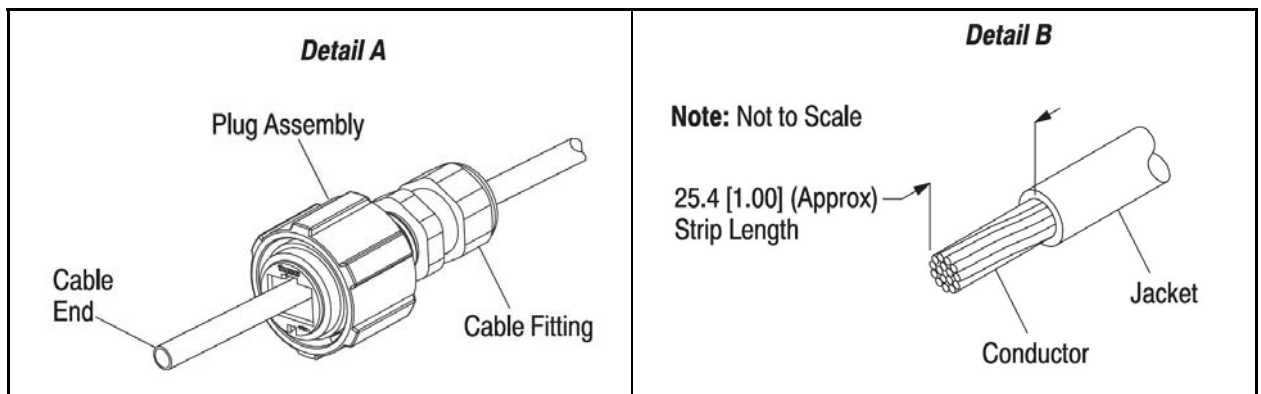

Figure 11-2: Cable Preparation
1. Slide the plug assembly (cable fitting end first) onto the cable. See Figure 11-2, Detail A.
2. Proper strip length is necessary to insert the conductors into the contact slots. The recommended strip length is given in Figure 11-2, Detail B.